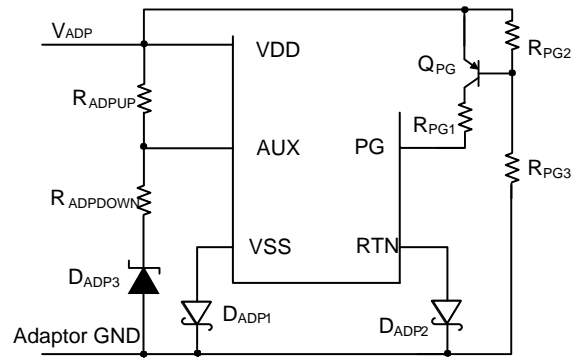

Figure 6: Wall Adapter Detection Circuit
When an auxiliary power source, such as a wall power adapter, is used to power the device, the divider resistors R_{ADPUP} , $R_{ADPDOWN}$, and D_{ADP3} must be chosen to satisfy Equation (1) for correct wall power adapter detection (see Figure 6).
The MP8008 enables wall adapter detection at $VDD = 11.5V$. If one adapter power with a lower voltage rating (such as 10V) is used to power the converter, one external PG pull-up resistor is necessary to enable the downstream DC/DC converter. Refer to Figure 6 and the following Power Good (PG) section for more detail.
If one adapter power lower than 11.5V is connected to supply the converter, the PG function cannot work with such a low input. An external PG pull-up circuit is recommended (see Figure 6). Typically, Q_{PG} needs a V_{CE} voltage higher than 100V (such as BSS63LT1). Choose $R_{PG2} = 7.5k\Omega$ and $R_{PG3} = 100k\Omega$ for a 12V adapter with some margin of adapter regulation. Choose $R_{PG1} = 100k\Omega$ to limit the PG sink current below 0.6mA when VDD is high.